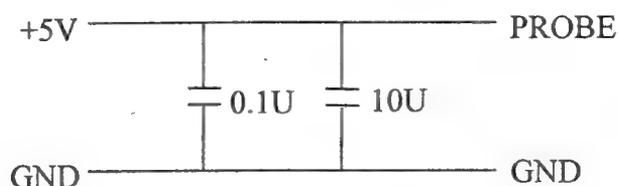

Figure 1.
1. Ripple & Noise: Measuring with by pass capacitors 0.1uf/10uf at output terminal and oscilloscope time-base set at 20MHz. ( Tested by the oscilloscope and refer to figure 1.)
1. Ripple & Noise: Measuring with by-pass capacitors 0.1uf/10uf at output terminal and oscilloscope time-base set at 20MHz. ( Tested by the oscilloscope and refer to figure 1. )
1. Ripple & Noise: Measuring with by pass capacitors 0.1uf/10uf at output terminal and oscilloscope time-base set at 20MHz. ( Tested by the oscilloscope and refer to figure 1. )